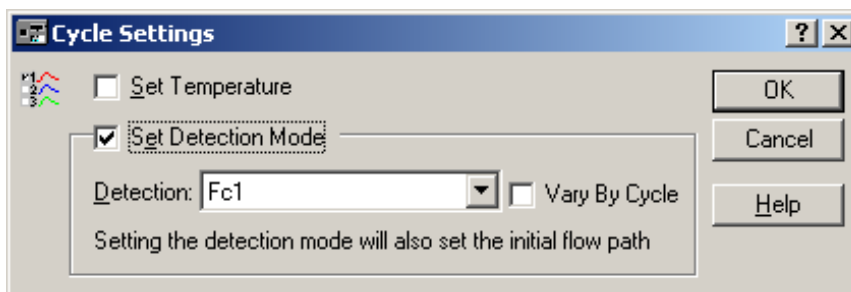

Figure 2.3 Flow cell selections
- 2.6.1 Double click on Detection 1 (1 denotes the flow cell number) - Cycle settings (Fig. 2.3) window will open.